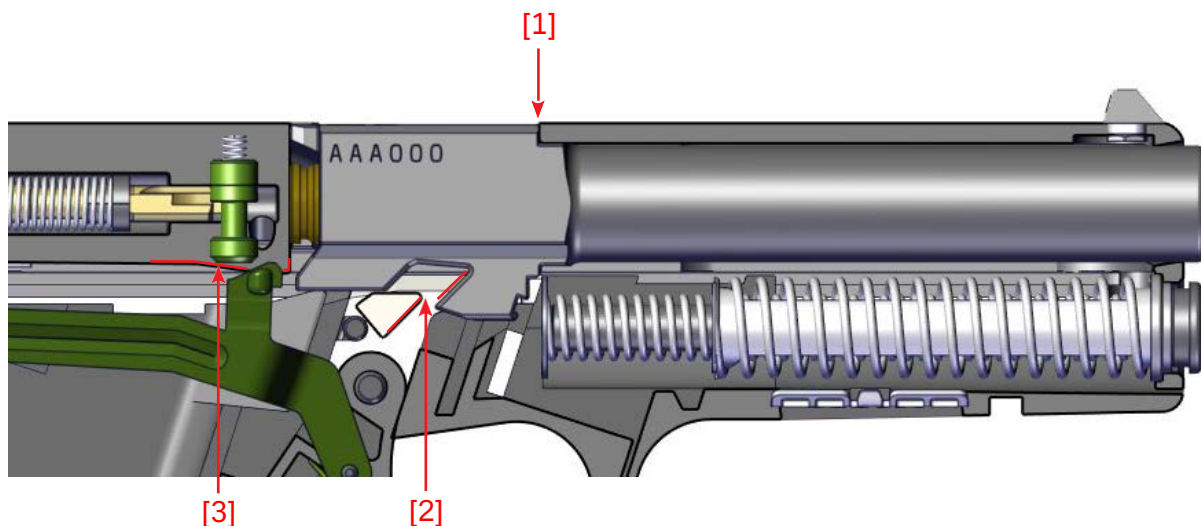

Fig. 2
The barrel is locked into the ejection port of the slide.(Fig. 2 - [1])
7. Barrel tilts down by hitting the taper of the locking block(Fig 2 - [2]), disconnecting the barrel from the slide
10. Feeding ramp(Fig 2 – [3]) of the slide will drive the next cartridge from the magazine into the chamber